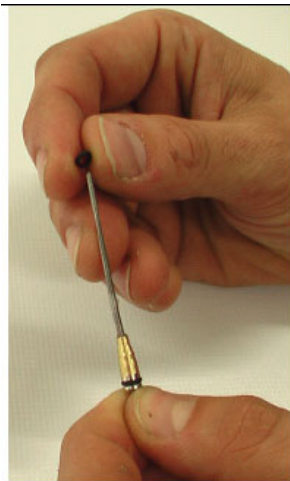

Figure 9
- b. Slide/roll O-ring onto the provided O-ring mounting tool (O-ring at the end of the conus, as shown in Figures 9 and 10).